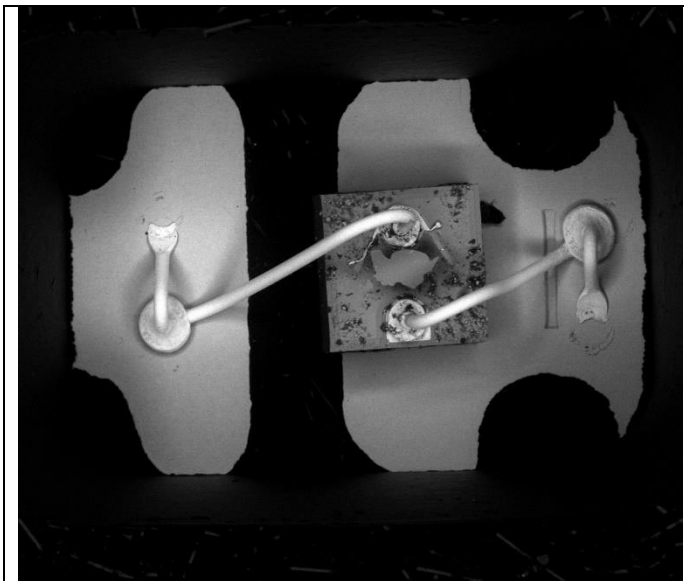
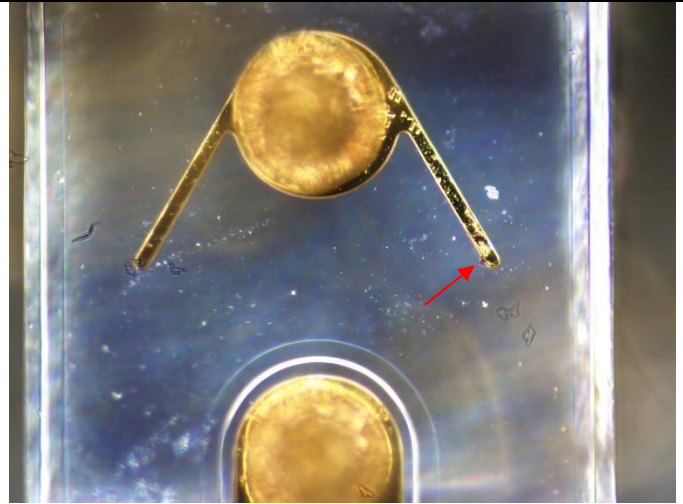

Fig 4a: No Short Circuit LED:
Fig 4g : Short Circuit:
- 2.5 The complained LEDs were then proceeded for chemical decapsulation followed by SEM & optical inspection; it revealed burn mark on Die surface for No Short Circuit LED while blow hole on Die surface near metal trace for Short Circuit LED which may result from EOS, as shown in Fig 4a – Fig 4g.